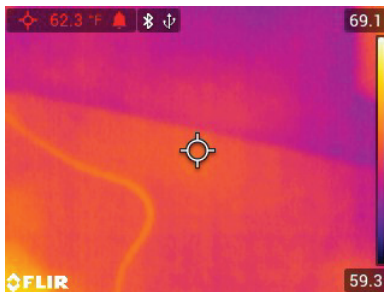

Figure 8.4 High Temperature alarm example. Note that the reading is red in color
4. When the High or the Low Alarm is enabled, the main display will show the alarm bell icon next to the measurement digits as shown in **Figure 8-4** below.